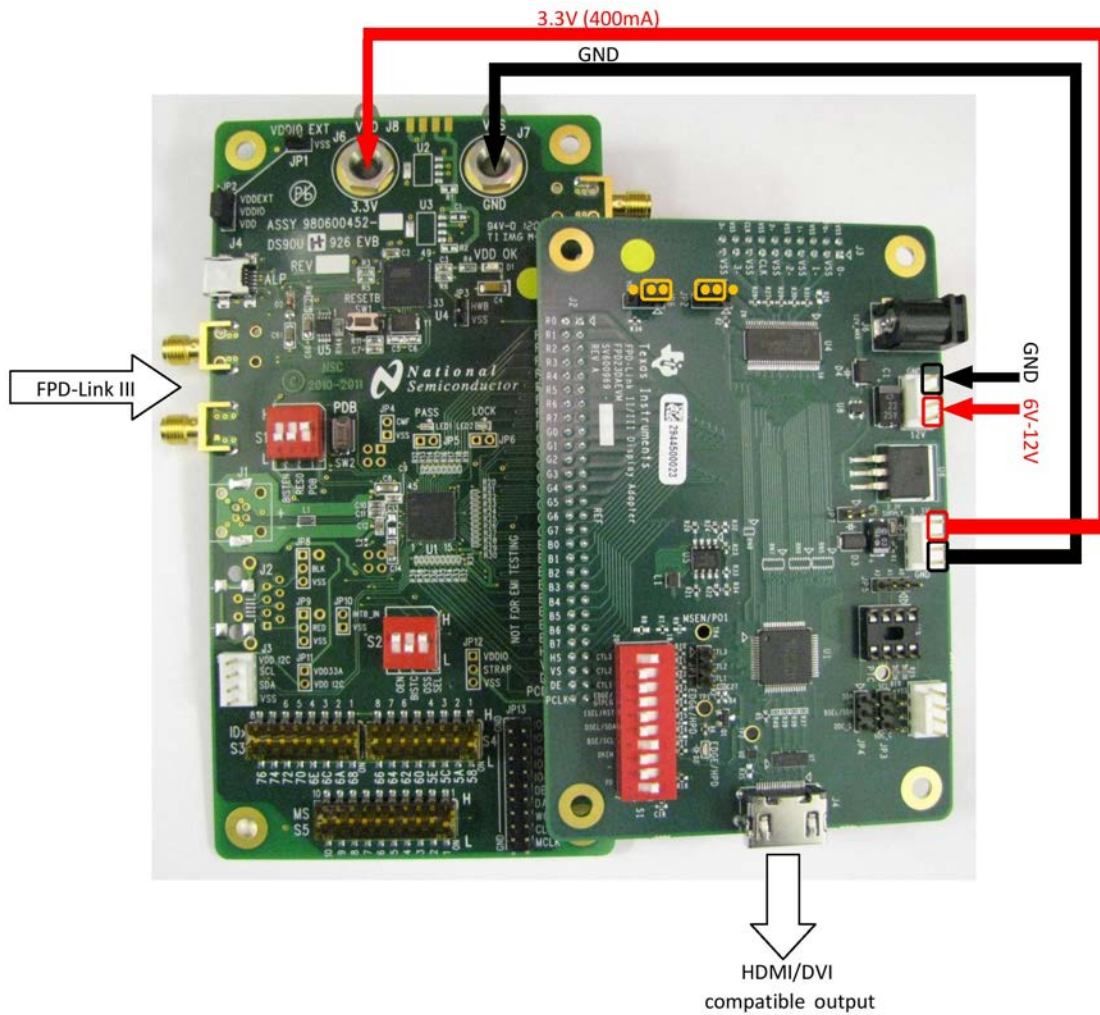
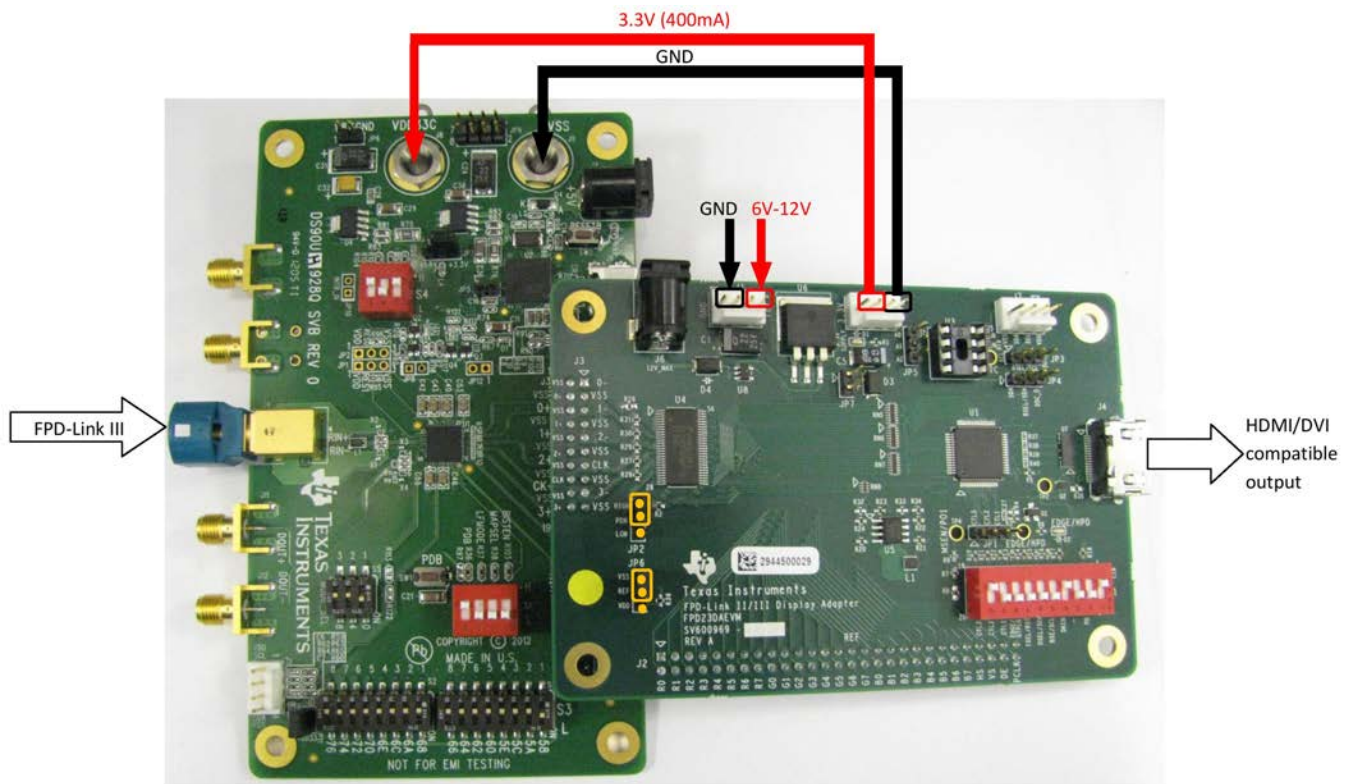

Figure 2-1. FPD23DAEVM-001 with Parallel LVC MOS input
Figure 2-2. FPD23DAEVM-002 with FPD-Link input
1. Verify the factory settings for the adapter board as shown in Figure 2-2 and Figure 2-1.
FPD23DAEVM can be powered up by 6V(min) to 12V(max) DC supply as detailed in Figure 2-2 and Figure 2-1. **Apply power to only ONE of these ports: J1 or J6.**